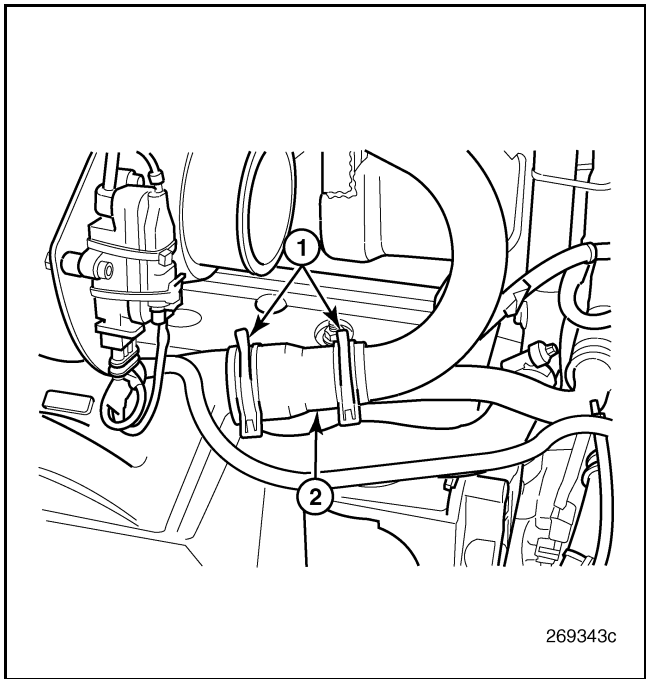

Figure 485 — Coupling Hose Clamps
3. Loosen and remove the clamps from the coupling hose at each end of the cool tube (Figure 485).